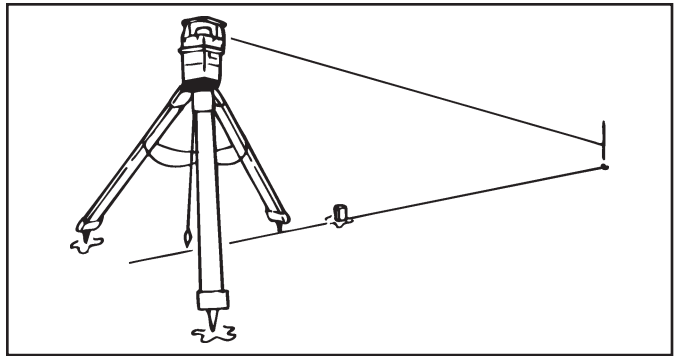

Figure 6. Method One: Align Rotating Laser with Grade Stakes
1. Set a minimum of two grade stakes exactly in line with one of the axis to be graded (Refer to Figure 6).